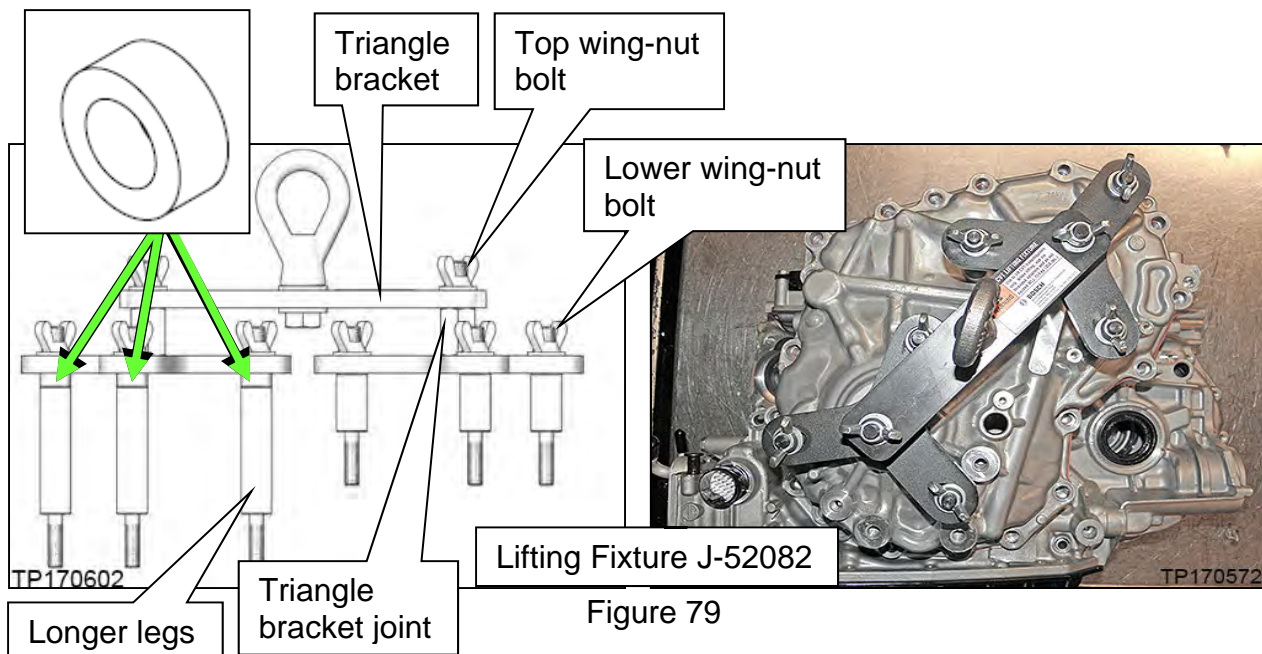

Figure 79
58. Remove the six (6) pulley bracket bolts.
59. Attach universal Lifting Fixture J-52082 with spacers J-52082-2 to the side cover as shown in Figure 79.
- b. Confirm that three (3) spacers (# J-52082-2) are present between the longer legs and triangle bracket as shown in Figure 79.